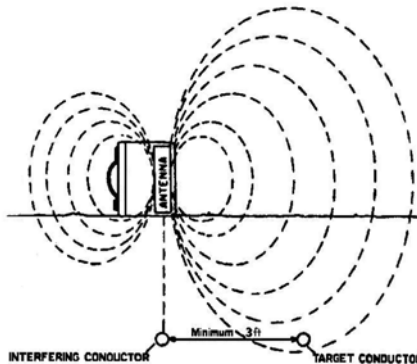

Figure 6-2: Position of Transmitter for Minimum Interference
- 4 If you are using the Inductive (Indirect) mode, you may be able to decrease the amount of interfering signal by changing the orientation of the Transmitter to the targeted conductor. Determine the location of the interfering conductor. Place the transmitter, turned on its end with the bottom facing the targeted conductor, over the interfering conductor as shown in Figure 6-2.